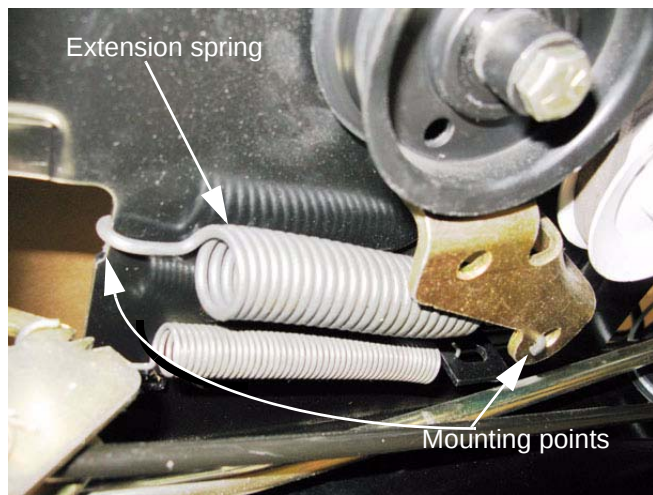

Figure 5.37
4. Disconnect the extension spring that pulls on the bracket to tension the drive belt. See Figure 5.37.